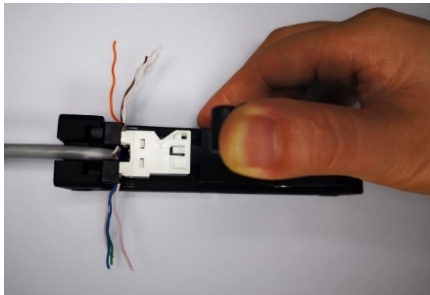

Figure 7
3.7 Squeeze the tool handle until the bottom. The wires are fully inserted into the jack and the blade inside the lacing fixture cut the extra wires. See Figure 7. Then release the handle and remove the lacing fixture and jack.